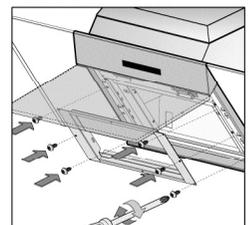

Fig. 14
- In order to change a filter hood into an extractor hood, remove the bracket from the package and fix it using the **6 screws** supplied as shown (fig 14)